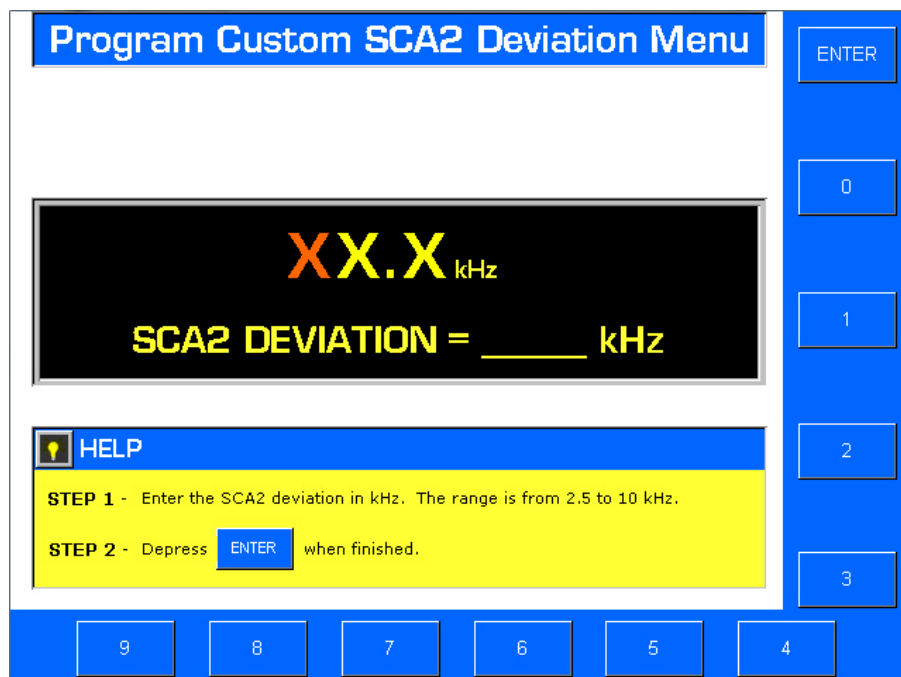

Figure 3-27. INTERNAL CUSTOM SCA2 DEVIATION MENU
1. Select CUSTOM DEV. The Internal Program SCA2 Custom Deviation Menu will appear (refer to Figure 3-27).